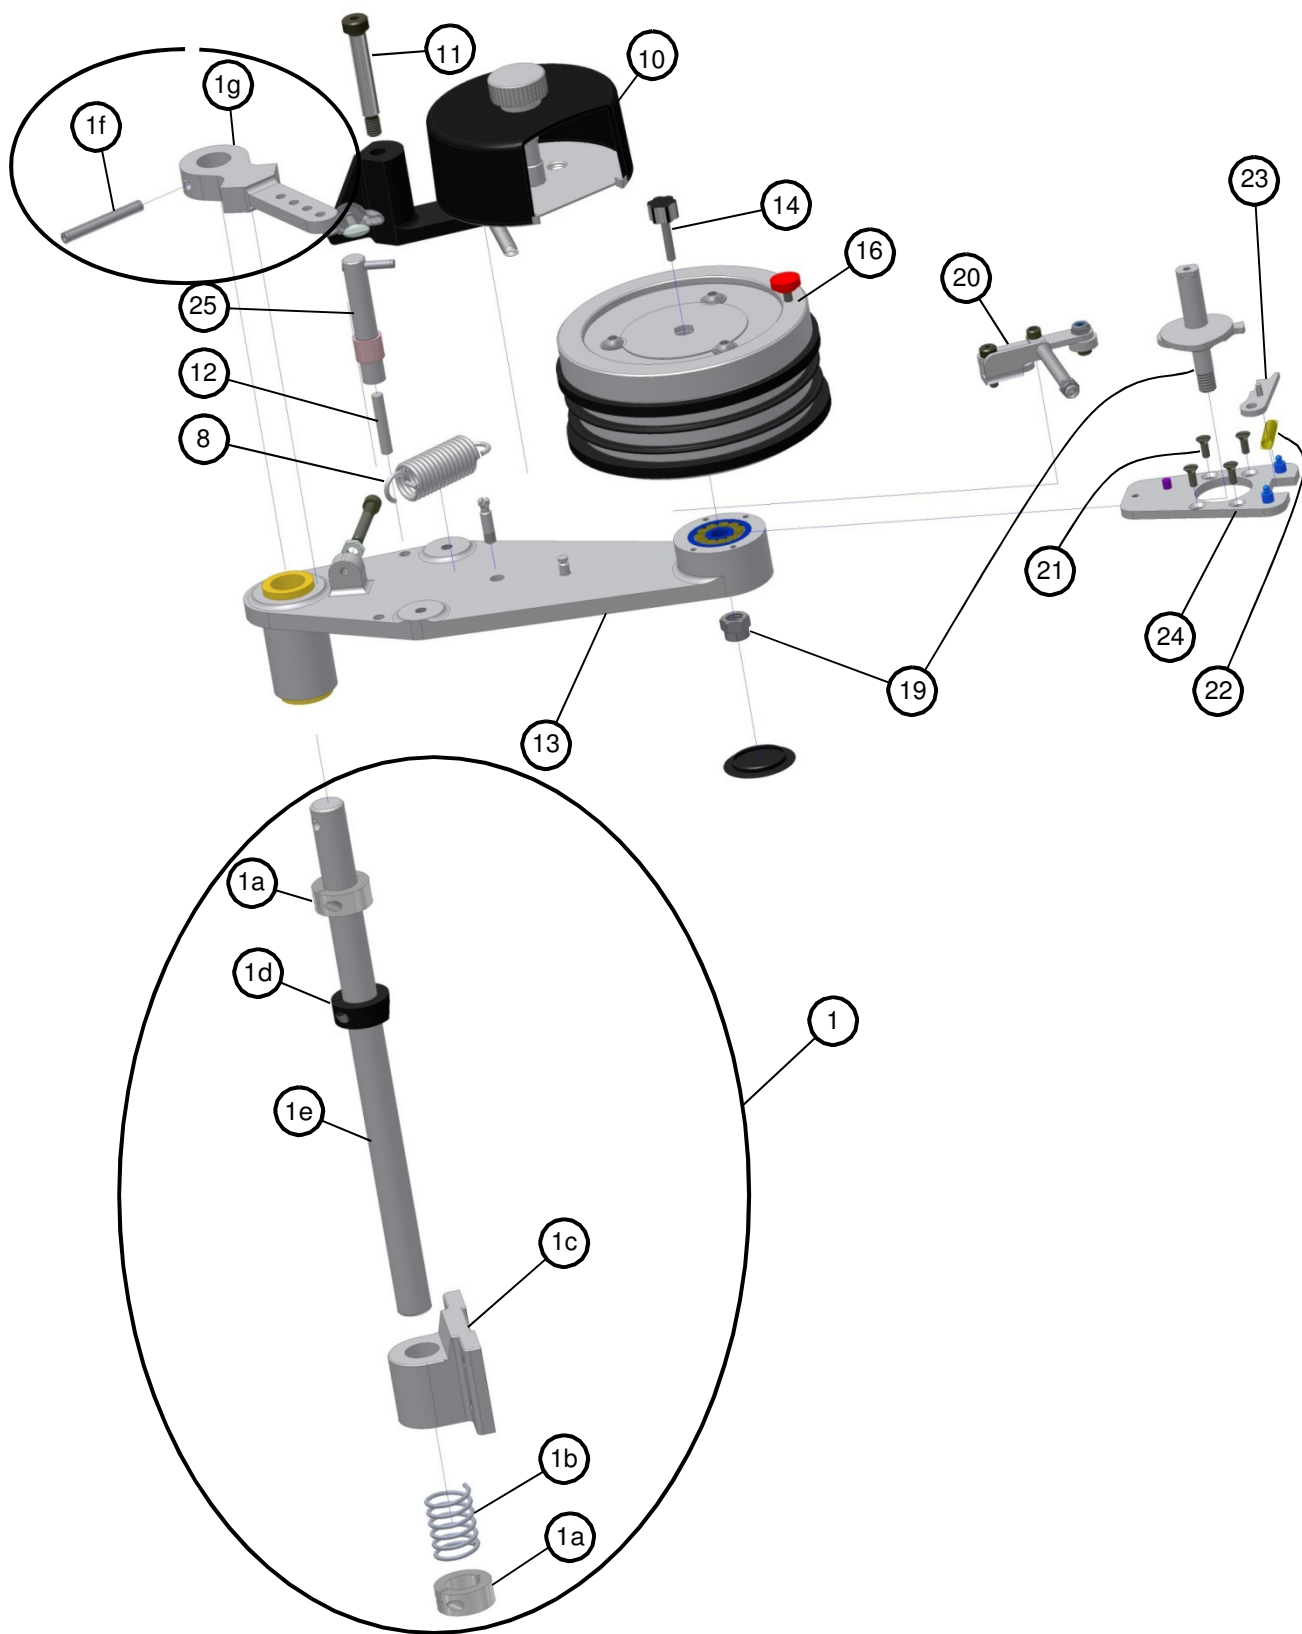

FIGURE 3
1. To change type, cartridge, or for service, move the unit away from the carton flow. A quick and simple means is provided in the unit's design as follows (see Figure 3). Grasp the Base Plate (#13) at the mounting end and lift upward away from the mounting bracket assembly (#1) until the angled collar (1d) is clear of the mounting bracket. Swivel the unit until clear of carton flow. The unit can now be serviced as needed. Return the unit to its original position with the angled surfaces touching. The unit is now in its original print position.
FOR ILLUSTRATION PURPOSES ONLY. REFER TO FIGURE 3 FOR PARTS BREAKDOWN OF ITEMS REQUIRED.